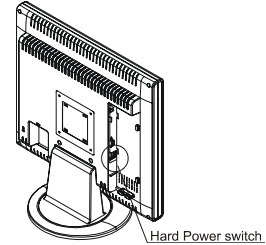

Figure 1-8
1. Turn on the LCD monitor's hard power switch, located on the back of the monitor. (See Fig. 1-8)